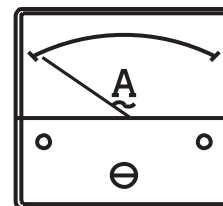

Figure 57. Ammeter (No Load)
8. The **ammeter** (Figure 57) will indicate **zero amps** with no load applied. When a load is applied, the ammeter will indicate the amount of current that the load is drawing from the generator.